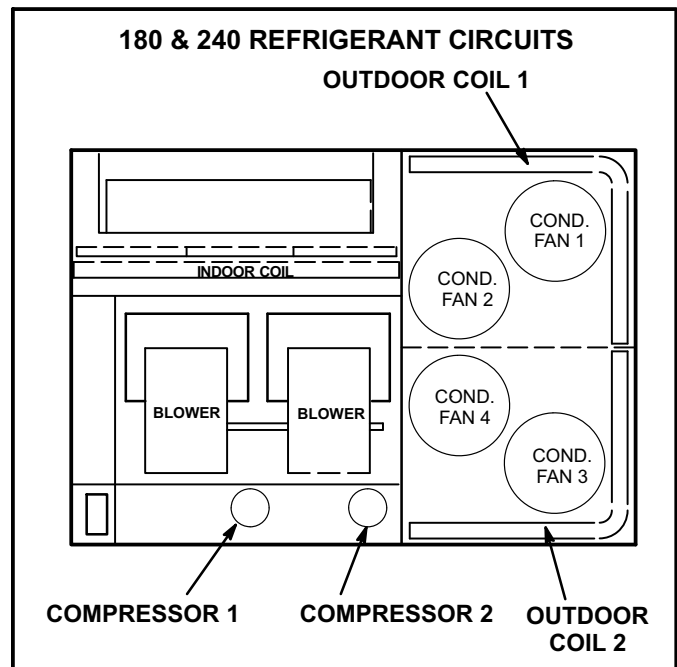

FIGURE 13
- 4- Units contain two refrigerant circuits or systems. See figure 13.